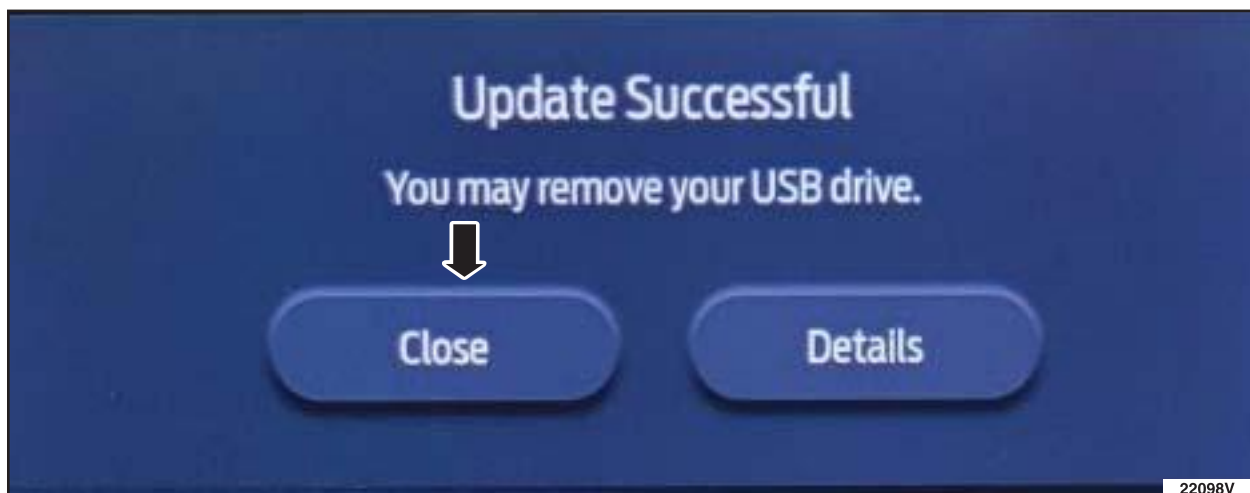

FIGURE 18
21. Restart the vehicle. **Only remove the USB stick from the vehicle when the update successful message appears.** See Figure 18.